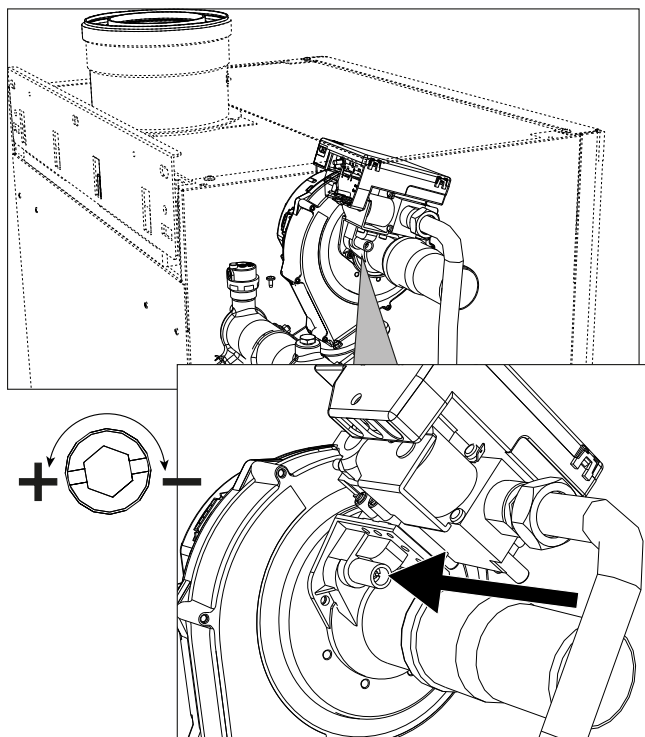
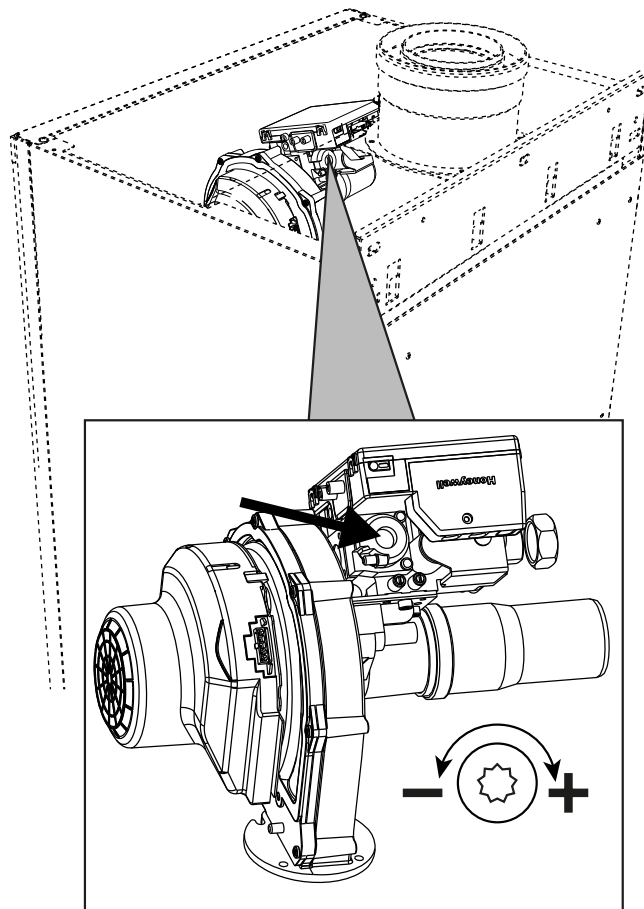
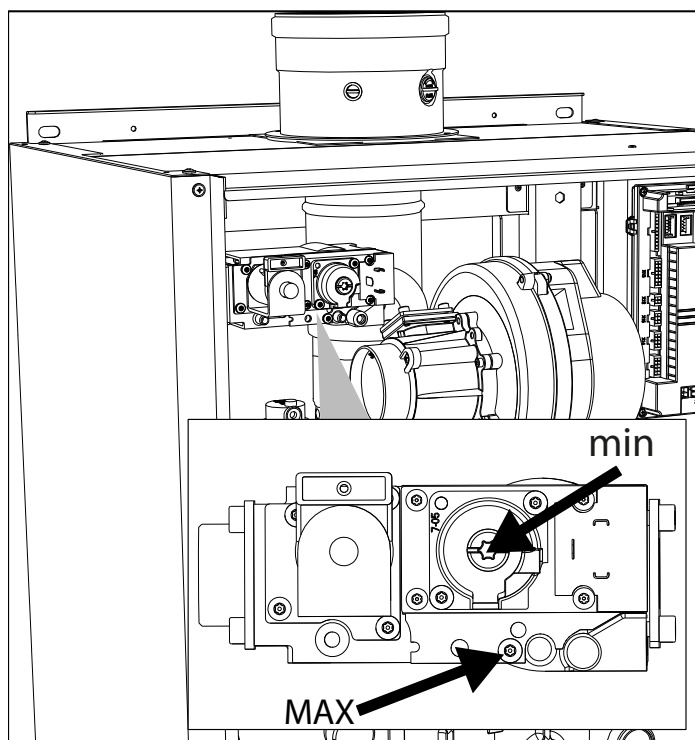

fig. 76- Maximum adjustment, models W 60 and W 80
fig. 77- Minimum adjustment, models W 60 and W 80
fig. 78- Maximum and minimum adjustment, models W 99, W 120 and W 150
- If the values are different from those indicated, with the maximum adjustment screw adjust the CO₂ to the CO₂ values indicated. See **fig. 76** for models **W 60** and **W 80** or **fig. 78** for models **W 99**, **W 120** and **W 150**.
- If the CO₂ values are different from those indicated, carefully adjust the minimum “OFFSET” screw, checking that the CO₂ is correct. See **fig. 77** for models **W 60** and **W 80** or **fig. 78** for models **W 99**, **W 120** and **W 150**.